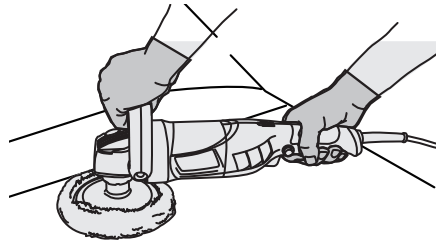

Fig. 11
- > Make sure that the polishing bonnet (11) is clean and free of foreign objects like dirt or sand, which could cause damage like scratches and swirls to the working surface.
- > Apply a small amount of polish to the working surface at first. Excessive polish cannot be absorbed by the polishing bonnet (11), which may stick to the working surface and lead to poor working results.
- > Hold the product firmly with one hand on the main handle (4) and with the other hand on the auxiliary handle (12) (Fig. 11).
- > Do not add too much pressure on the auxiliary handle (12); let the product do the work. Excessive pressure will result in poor performance and damage of the working surface.